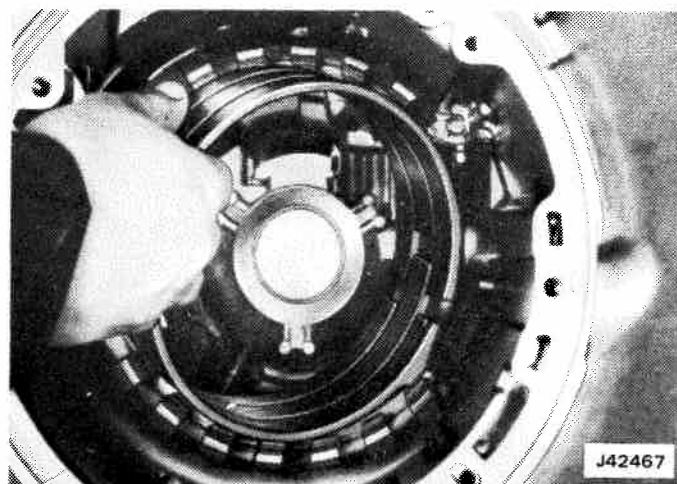

Fig. 7-37 Removing Rear Band
(7) Remove rear band assembly from transmission case (fig. 7-37).